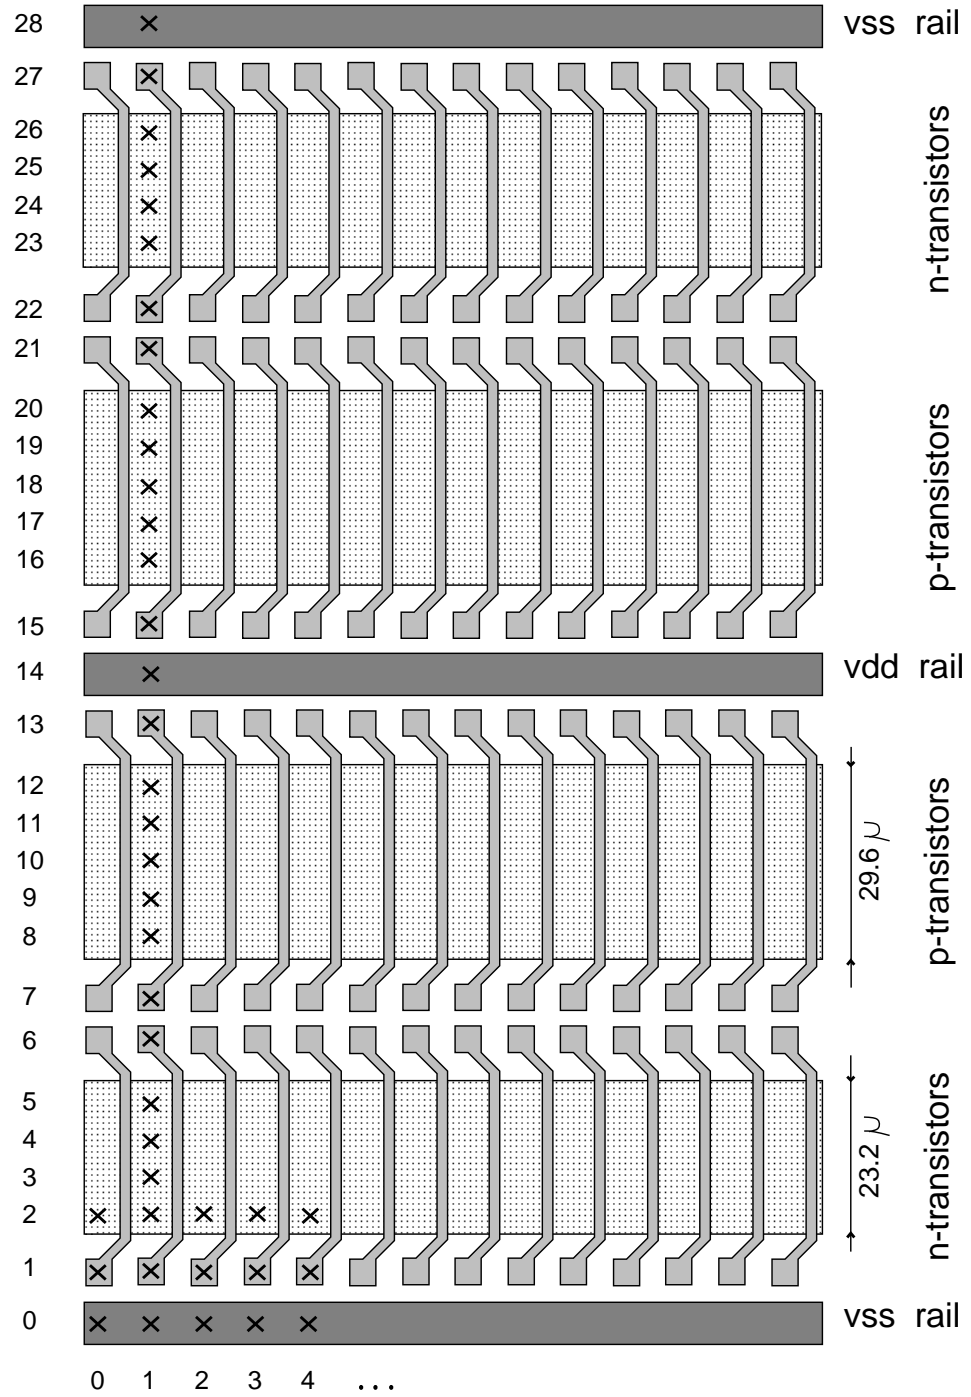

Figure 2.6: The basic structure of the fishbone sea-of-gates image.
Figure 2.6 on page 12 shows the structure of the fishbone image. This image is fabricated in the C3TU process, the Delft derivative of the Philips C3DM process. The length of a transistor gate is 1.6 μ . The designer can program two layers of metal and a number of contact layers. Each layer is referred to as a 2- or 3 character acronym:
Wire segments and contacts may only be placed at certain “grid points”. *Seadali* optionally marks these grid points with little white dots. Once you have grown accustomed to the image, you will know these positions by heart. In figure 2.6 the gridpoints are indicated with \times marks. In the vertical direction they have been numbered 0 ... 28.
2. On top of (poly) gate contacts (grid rows 1, 6, 7, 13 in fig. 2.6) **cos** contacts (metal1-metal2) are not allowed. All **cos** contacts must be placed on the diffusion tracks (2-5 and 8-12) or on the power supply (0 and 14).
The gate of each transistor consist of a polysilicon pattern. Each transistor gate can be reached at two grid points using a **cps** contact. In figure 2.6 the n-transistor can be connected in grid rows 1 and 6, the p-transistor in rows 7 and 13. Notice that the p-transistor is taller than the n-transistor.
The fishbone image consists of alternating rows of n-type and p-type transistors. Each row is a series connection of many, many transistors. Between the rows there are two power “rails” in metal1 which run horizontally across the entire width of the chip. Vertically we use a scheme of alternating VSS and VDD power rails. Next to a VSS-power rail there are two rows of n-type transistors, next to a VDD-power rail there are two rows of p-type transistors. This results in a nnppnnppnnpp.... order of transistor rows (figure 2.6).